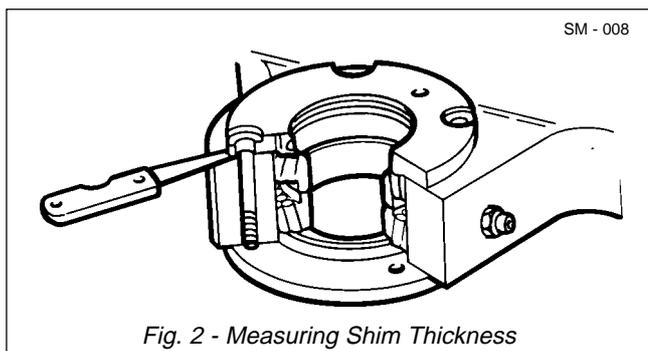

Fig. 2 - Measuring Shim Thickness
2. Using EMS19057 grease (23), pack bearing assemblies (34 & 35), including end faces, and install bearings using a suitable driver.
3. Remove bolts (44) and retainers (33 & 51) from pivot bores.
4. Temporarily install retainers (43 & 49) to pivot bores. Ensure pressure relief hole is opposite the grease nipple (27). Install retainers (33 & 51) to pivot bores and secure with bolts (44) and washers (45). Tighten bolts (44) to a torque of 27 Nm (20 lbf ft).
5. Using feeler gauges, as shown in Fig. 2, measure the dimension between the top pivot faces and retainers (43 & 49). Measure at 3 positions equally spaced around retainers and determine average dimension, this is the size of shims (36 - 38) required.
6. Remove bolts (44), washers (45) and retainers (43 & 49).
7. Install shims (36 - 38) as calculated at Step 5, reinstall retainers (43 & 49) and secure with bolts (44), coated with sealant (58), and washers (45). Tighten bolts (44) to 106 - 116 Nm (78 - 86 lbf ft).